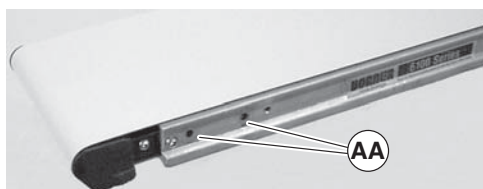

Figure 12
5. On side opposite drive output shaft, remove two screws (Figure 12, item AA).